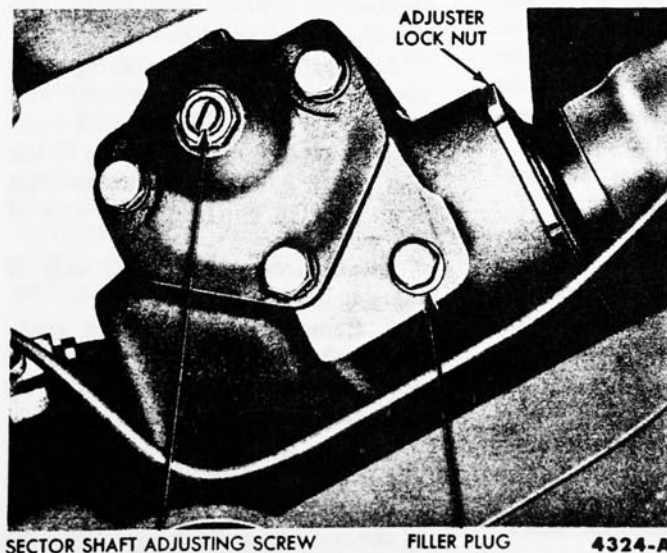

FIG. 2—Steering Gear Adjustments
6. Loosen the nut which locks the sector adjusting screw (Fig. 2), and back off the adjusting screw.